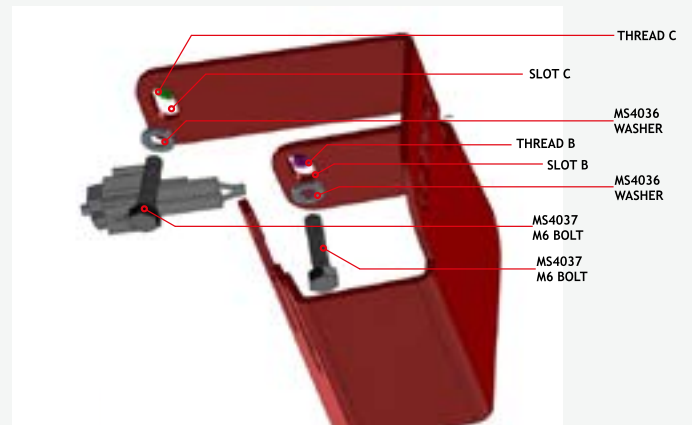

FIGURE 2B
- 4 Align Slot B & C on the bracket with the threaded holes on the side of the engine bay. (Note, you may need to angle the bracket to position under the bonnet strut mount). Install the supplied 2 x MS4037 M6 bolts with supplied 2 x MS4036 M6 washers. Refer to FIG.2B & 2C.